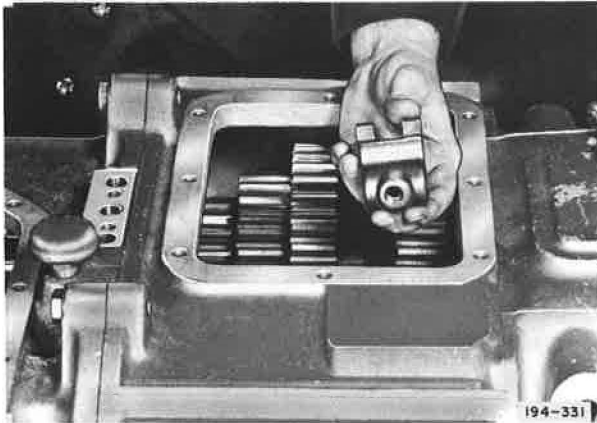

Figure 5-111. Installing First and Reverse Shifter
27. Install first and reverse speed shifter rail through front of case and first and reverse speed shifter. See Figure 5-111. Advance rail through intermediate bore of case, first speed fork, front snap ring, reverse speed fork and rear snap ring until rail reaches neutral position. Install fork and shifter setscrews and tighten to recommended torque.